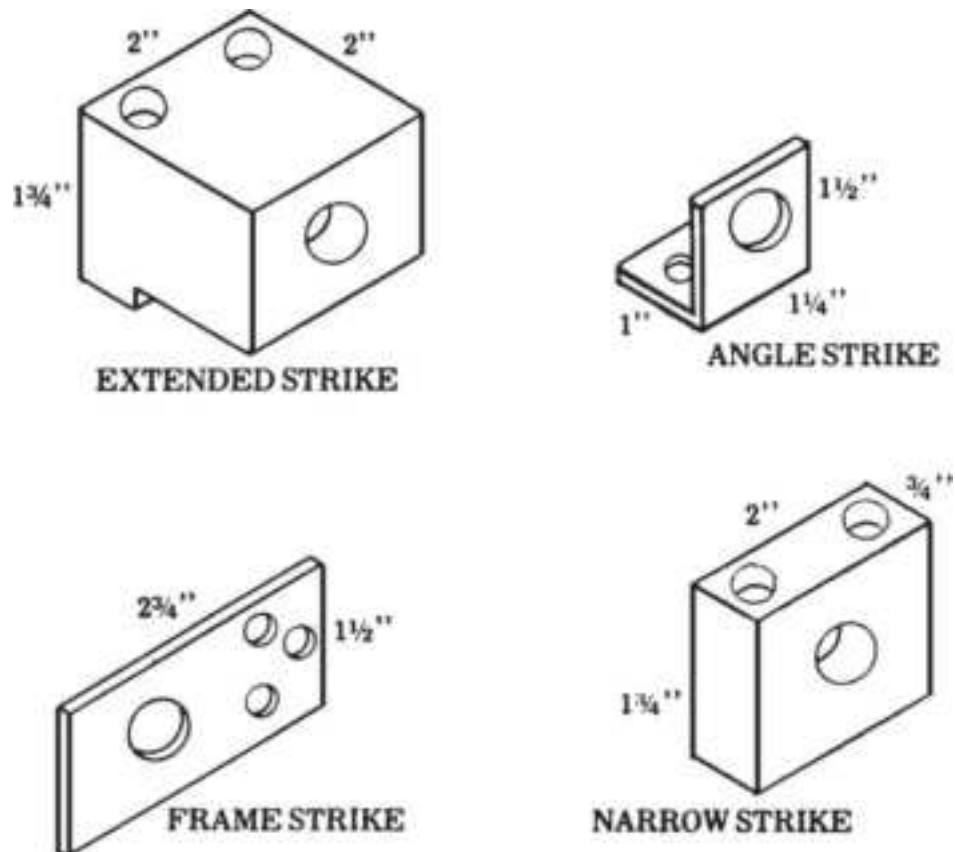

**Figure 19.62** Strikes. (*Security Engineering, Inc.* )
4. Using the mounting holes in the lock base and strike as templates, mount the solenoid lock and strike with the screws provided. (Several types of strike are available and can be used depending on the situation. See Fig. 19.62 .)